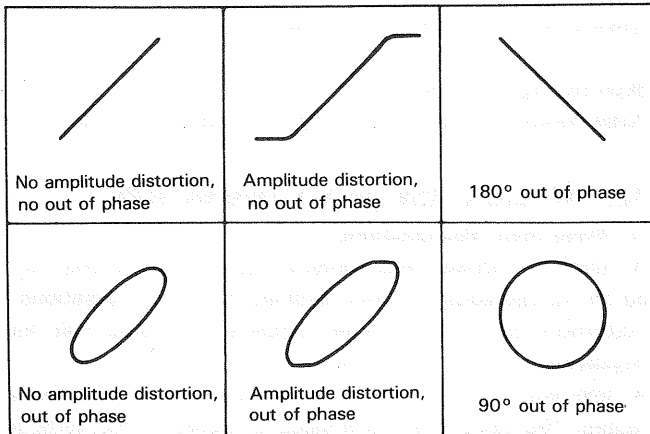

Fig. 58 Typical phase measurement oscilloscope display
7. Some typical results are shown in Fig. 58.